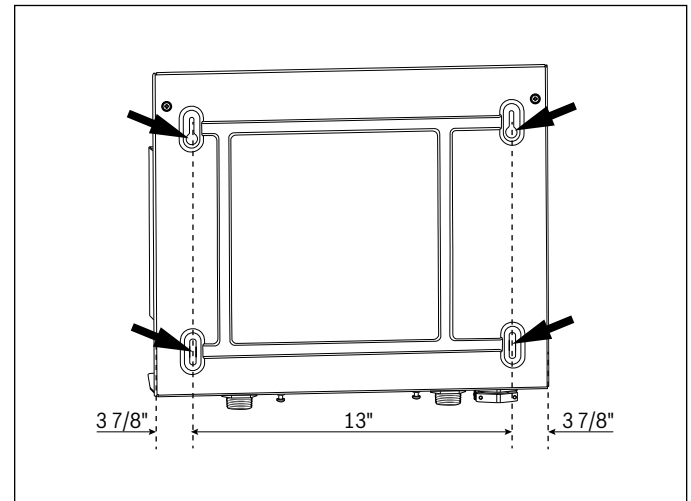

Figure 9
9. Mount the unit to the wall with four (4) screws of at least one (1) inch (25.4mm) in length at the marked points. See Figure 9.